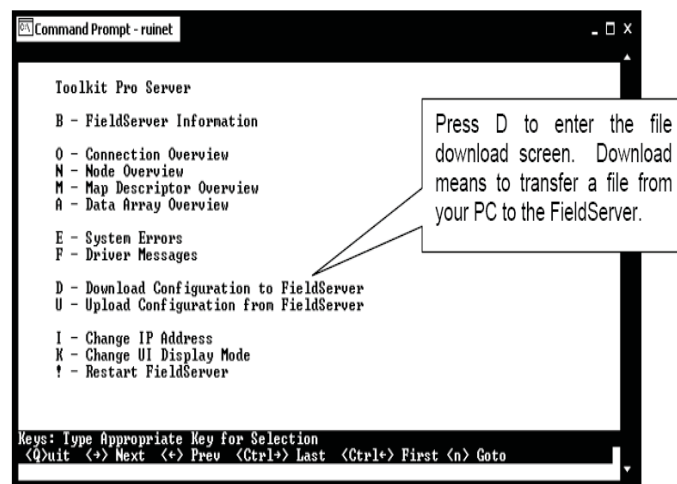

Figure 14: Download new Config.csv file
11.) From the *RUINET Main Menu*, type <D> to Download the new config.csv file to the FieldServer (**Figure 14**).